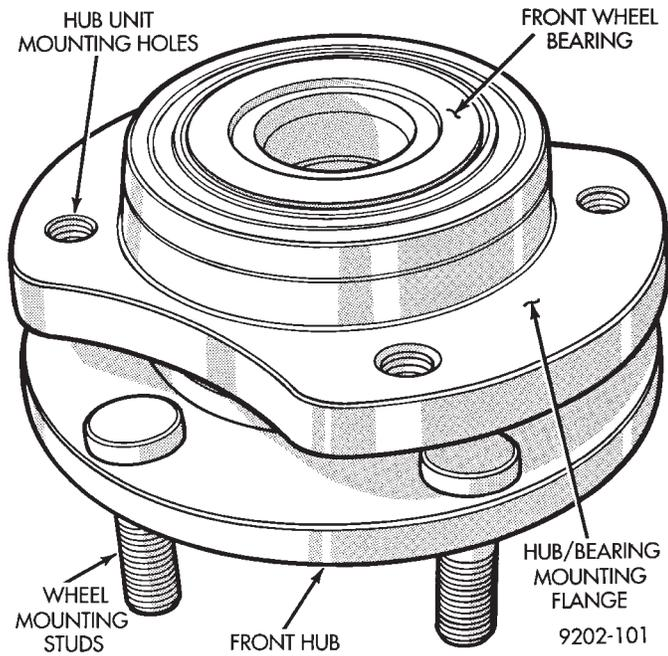
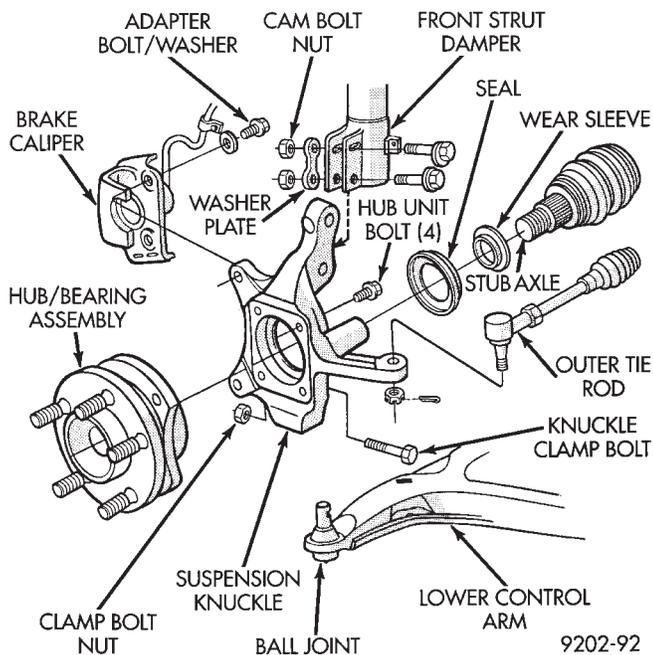

Fig. 1 Unit III Front Hub And Bearing Assembly
Fig. 2 Front Hub And Bearing Assembly Mounting
(9) Install the front brake caliper and adapter back over the braking disk and align with the adapter mounting holes on steering knuckle (Fig. 1). Install the caliper adapter to steering knuckle attaching bolts and torque to 217 N•m (160 ft. lbs.).
The Unit III Front Hub and Bearing (Fig. 1) is used on all Caravan, Voyager and Mini Ram Vans.
This unit is serviced only as a complete assembly (Fig. 1). It is mounted to the steering knuckle by four mounting bolts that are removed from the rear of the steering knuckle (Fig. 2).